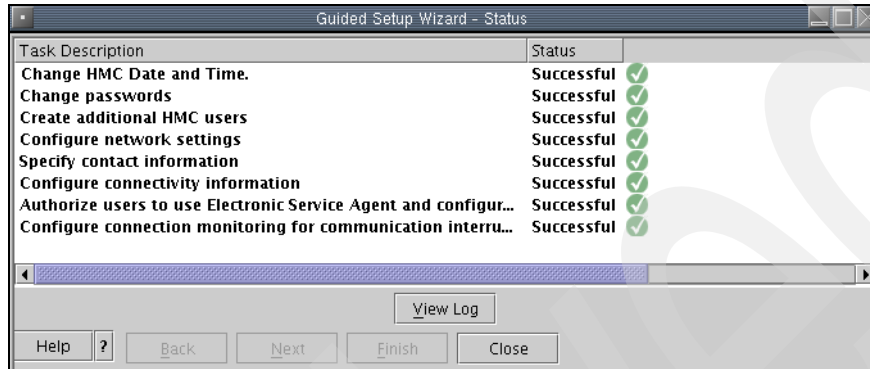

Figure 4-44 Guided Setup Wizard - Status panel
41. The Guide Setup Wizard - Status panel is displayed (Figure 4-44). As each task completes, its status is automatically updated.